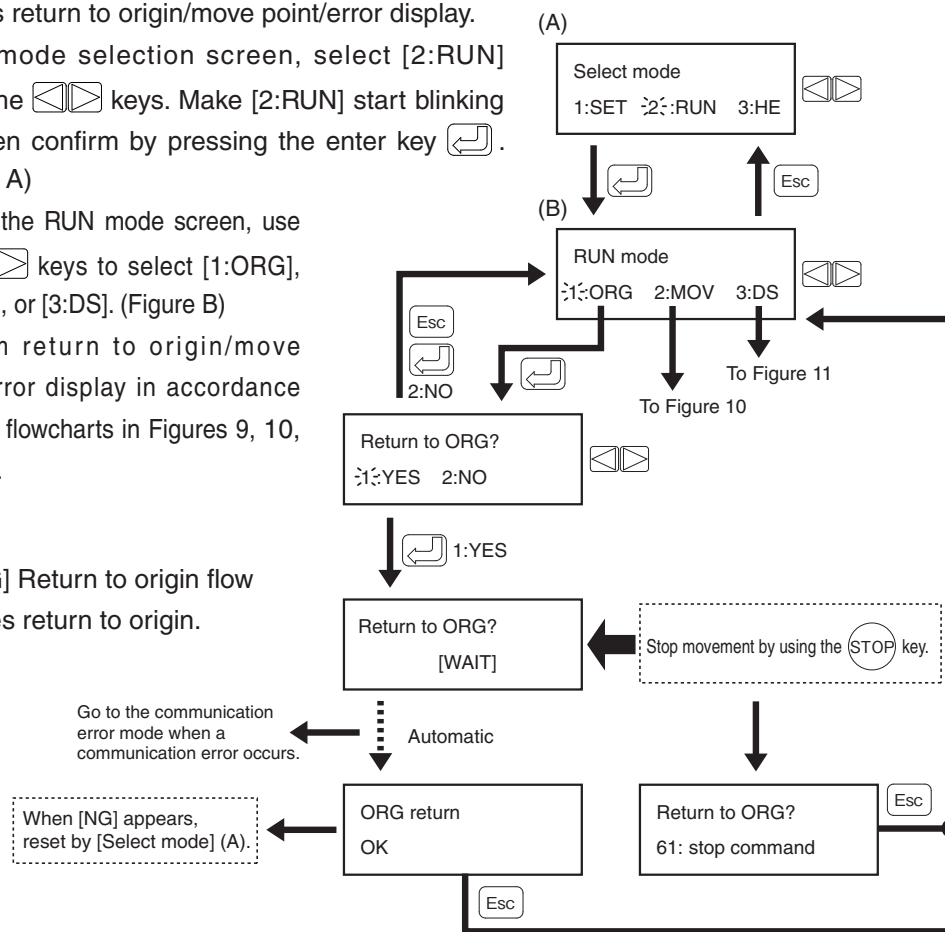

Figure 9 Return to origin flowchart
- Perform return to origin/move point/error display in accordance with the flowcharts in Figures 9, 10, and 11.